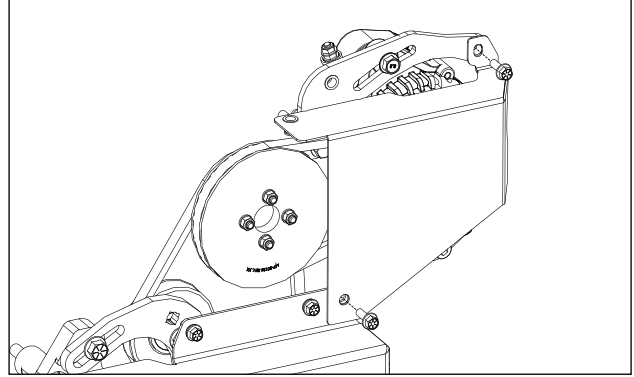

Fig. 9.2 Alternator Shroud
- 9.2 Per fig. 9.2, install alternator shroud and **torque to 11 ft lbs.**